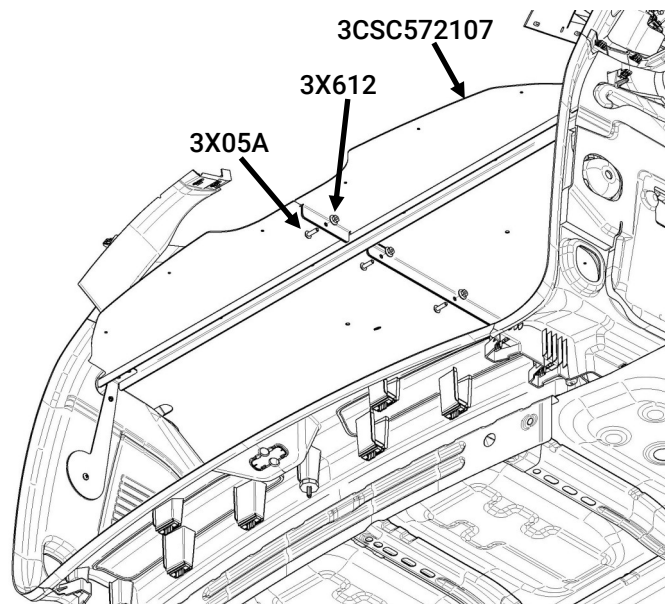

Figure 6
secure using (7) hex head screws [3X05A] and (7) serrated flange nuts [3X612] (Fig 6).